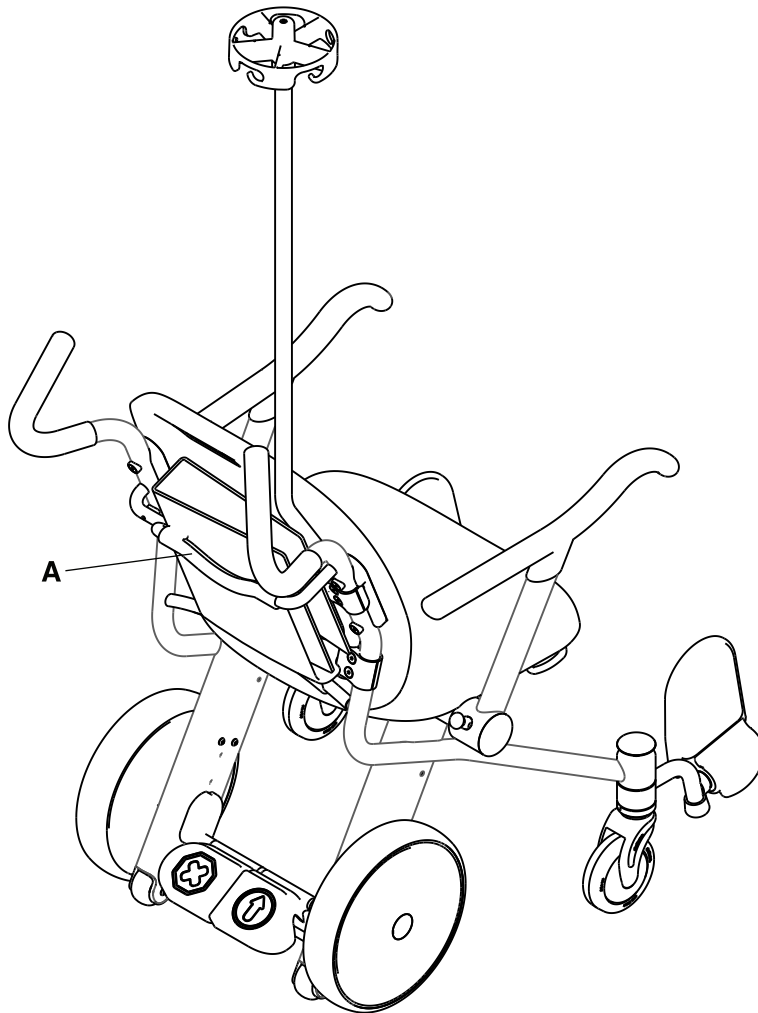

Figure 1-12: Storing records in the chart holder
Use the chart holder to store and transport occupant records (A) (Figure 1-12 on page 1-22). The chart holder holds a 3-inch, three-ring binder.